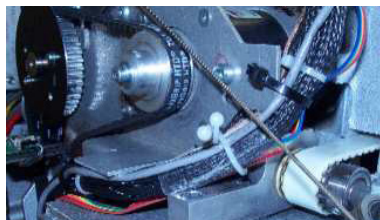

Figure 2 - LED Cluster Harness Tied to Z-Motor Mounting Bracket
12. Connect the new LED cluster harness to the left LED cluster assembly and run it through the z-motor mounting bracket and use a twist-lock cable tie to tie it with the adjacent harnesses to the z-motor mounting bracket (Figure 2).